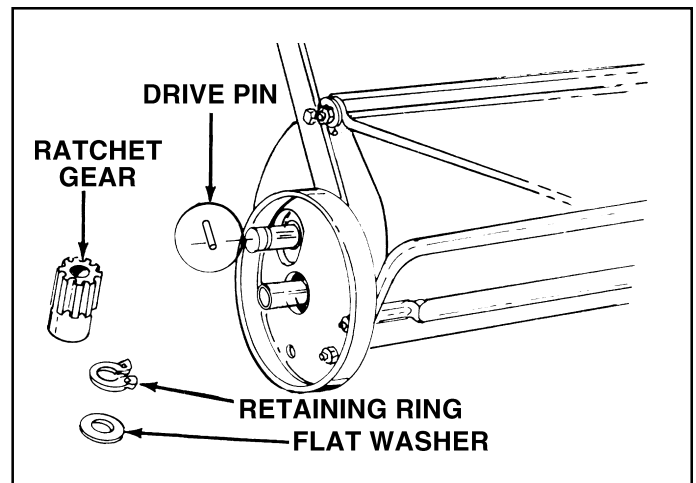

FIGURE 25
3. Remove the gear by sliding it off the brush shaft. (Look for the drive pin, which may fall out of the brush shaft when the ratchet gear is removed.) See figure 25.